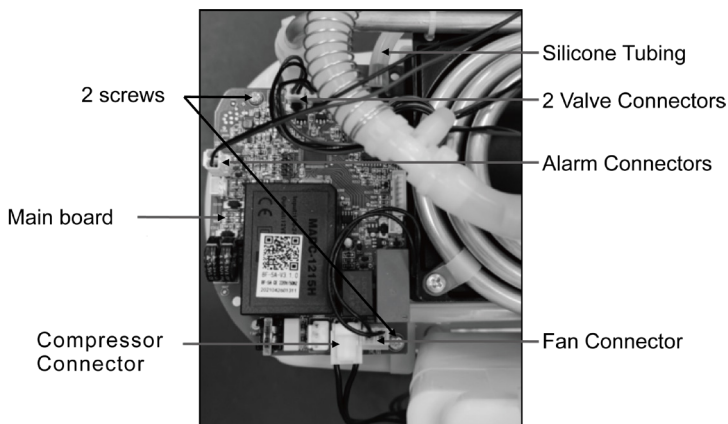

Figure 16
Compressor failure (E3)	Unplug the compressor plug-in (Figure 16) and start the oxygen concentrator. A few seconds later, the yellow light is on, alarm sounds, panel shows word "E3", and the device shutdown.
- Unscrew the screws in the main board. (Figure 16)
- Pull out silicone tubing and all connectors in the board then remove the main board. (Figure 16)